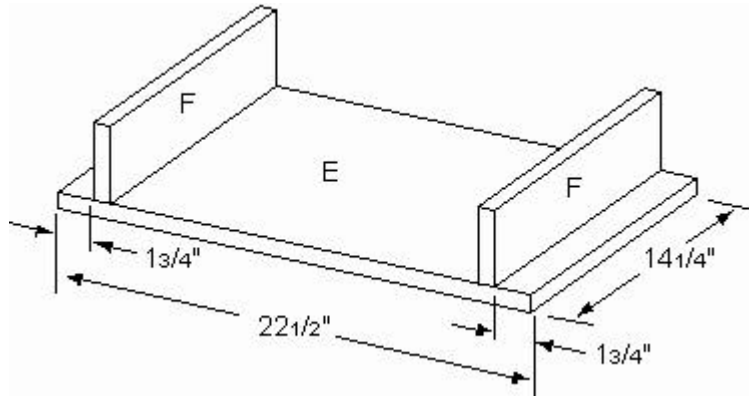

**Figure 2**
1. Cut one back (D) from 3/4-inch plywood, measuring 22-1/2 x 23 inches.
3. Place the back (D) between the two side assemblies, matching the 23-inch edges, as shown in *Figure 2*. Nail through the side assemblies into the edge of the back (D) using 1-1/2-inch (4d) nails placed every 4 inches.
4. Cut two shelves (E) from 3/4-inch plywood, each measuring 22-1/2 x 14-1/4 inches.
5. Cut two drawer guides (F) from 1 x 4 pine, each measuring 14-1/2 inches long.